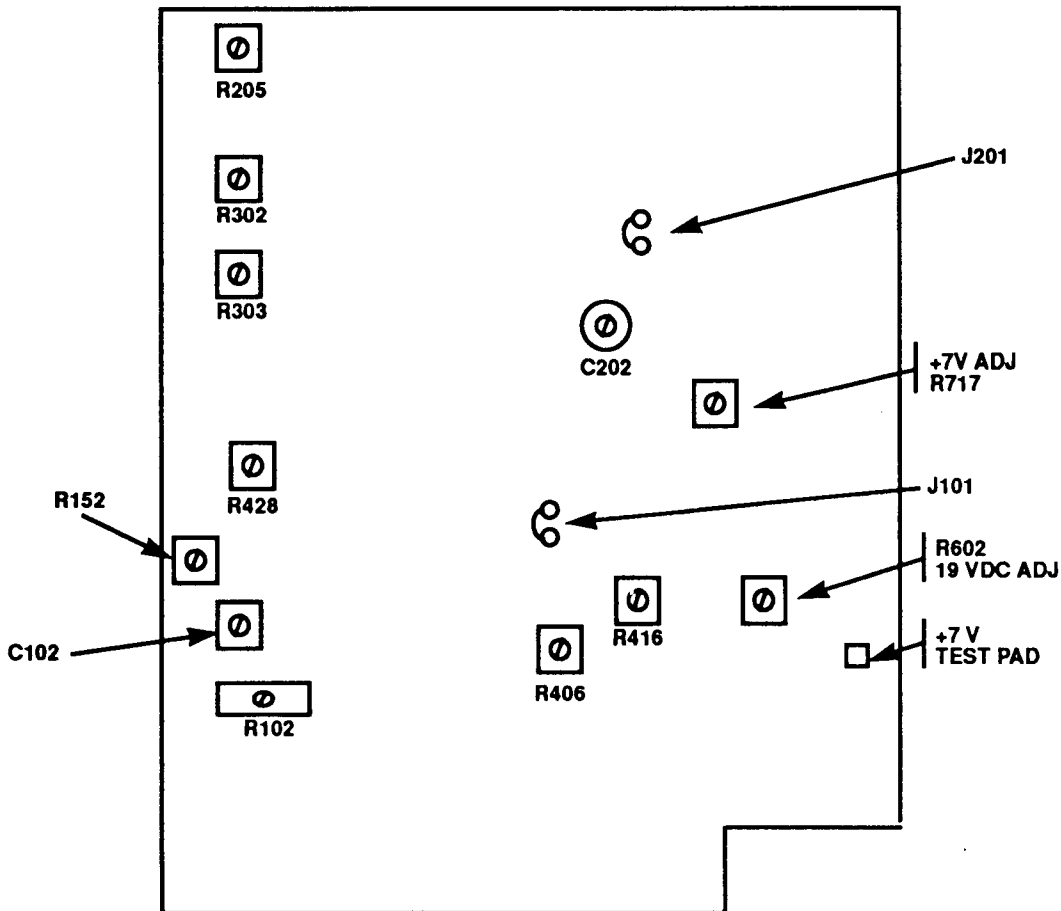

Figure 2. Adjustment locations, model 3466A - top view.
- (1) Set calibrator to **STANDBY**.
- (2) Press TI **RANGE 20** pushbutton.
- (3) Set calibrator for a 19 V dc output. Adjust R602 19 VDC ADJ (fig. 2) for a 19.000 V TI indication (R).
(1) Adjust R416 (fig. 2) for a TI indication equal to calibrator output display rounded to TI digits of resolution.
(2) Adjust R406 (fig. 2) for a TI indication equal to calibrator output display rounded to TI digits of resolution.
(3) Adjust R428 (fig. 2) for a TI indication equal to calibrator output display rounded to TI digits of resolution.
- (3) Set calibrator for a 19 V, 200 Hz output. Adjust R303 (fig. 2) for a 19.000 TI indication (R).
- (4) Set calibrator for a 1.9 V, 200 Hz output. Adjust R302 (fig. 2) for a 1.900 TI indication (R).
- (5) Repeat (3) and (4) above for best compromise.
- (6) Set calibrator for a 19 V, 10 kHz output. Adjust R102 (fig. 2) for a 19.000 TI indication (R).
- (7) Set calibrator for a 1.9 V, 10 kHz output.
- (8) Press TI **RANGE 2** pushbutton. Adjust C102 (fig. 2) for a 1.9000 TI indication (R).
- (9) Set calibrator for a 1.9 V, 100 kHz output. Record TI indication.
- (10) Press TI **RANGE 20** pushbutton.
- (11) Set calibrator for a 19 V, 100 kHz output. Adjust C202 (fig. 2) for a TI indication numerically the same as recorded in (9) above (R).
- (12) Set calibrator for a 1.9 V, 100 kHz output.
- (13) Press TI **RANGE 2** pushbutton and record TI indication.
(14) Repeat (10) through (13) above until numerical indications are the same, or best compromise.
- a.** Measure voltage at +7V TEST PAD (fig. 2) with multimeter. If required, adjust +7V ADJ R717 (fig. 2) for a multimeter indication between 6.99 and 7.01 V dc (R).
- e.** Connect multimeter to J101 (fig. 2). Adjust R152 (fig. 2) for a multimeter indication of $0 \pm 100 \mu$ V (R).
- f.** Connect multimeter to J201 (fig. 2). Adjust R205 (fig. 2) for a multimeter indication of $0 \pm 200 \mu$ V (R).